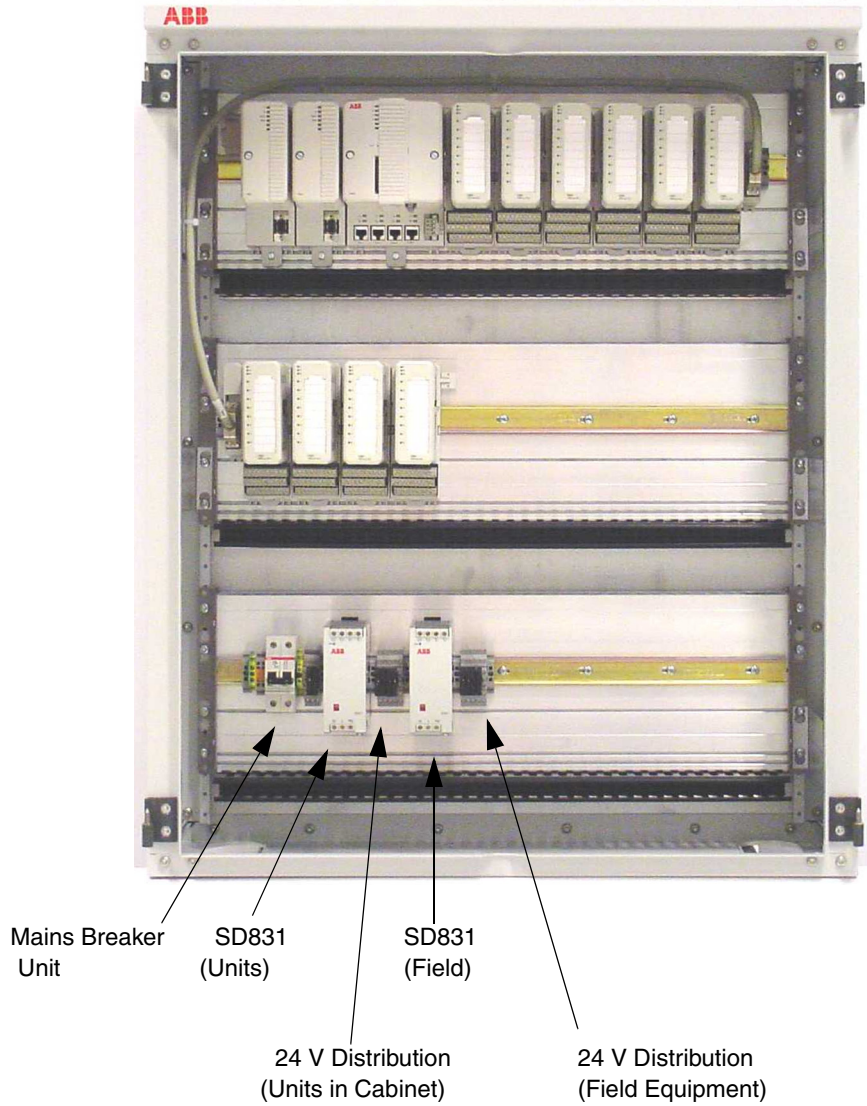

Figure 55. Wall Cabinet – Dual Power Supply (Local/Field) Arrangement
- Figure 55 on page 155: Wall Cabinet – Dual Power Supply (Local/Field) Arrangement